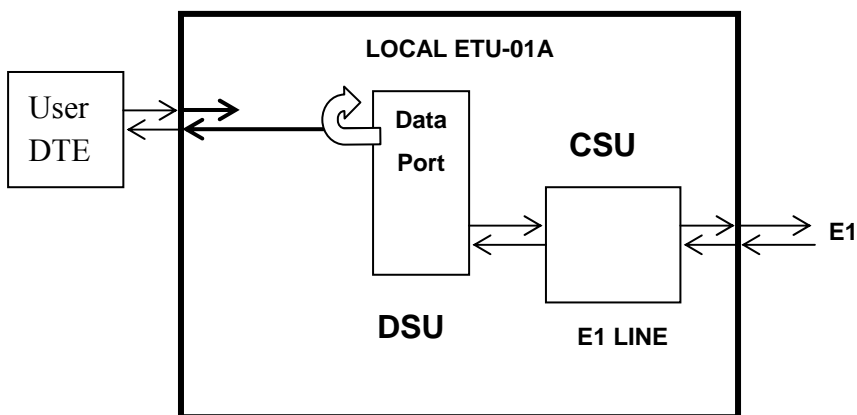

Figure 5-7. Data Port local digital loop back
Data Port local digital loop back is performed by connecting the local data channel receive data (RD) to the data channel transmit input (TD), as shown in Figure 5-7. The test signal is then provided by the local E1 or by the remote user DTE.